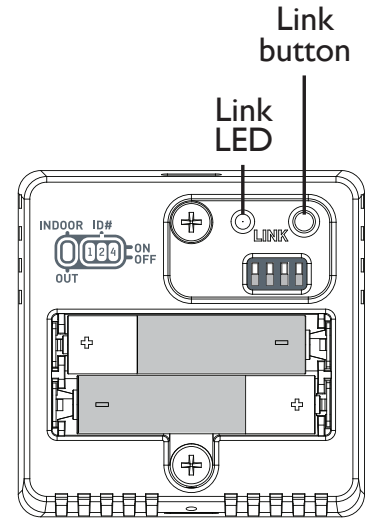

fig. 3
3. Install 2 AAA batteries with the polarity as indicated on the sensor housing. (see fig. 3).
4. Press and hold the Link button (see fig. 3) until the Link LED starts to flash.